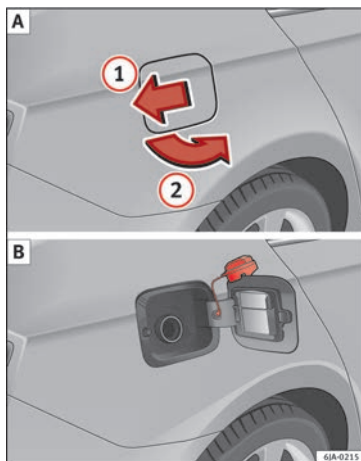

Fig. 203 Vehicle as seen from the rear right: fuel tank flap/fuel tank flap with tank unscrewed cap attached.
The correct type of fuel for your vehicle is indicated on a sticker on the inside of the fuel tank flap, along with the tyre size and pressure » **Fig. 203 B**.
- Press the flap in the direction of the arrow **①** » **Fig. 203**.
- Open the cover in the direction indicated by the arrow **②**.
- Unscrew the tank cap anti-clockwise and place it on top of the tank flap » **Fig. 203 B**.
»» Fig. 203.
- Open the cover in the direction indicated by the arrow ❷.
- Unscrew the tank cap anti-clockwise and place it on top of the tank flap »» Fig. 203 B.